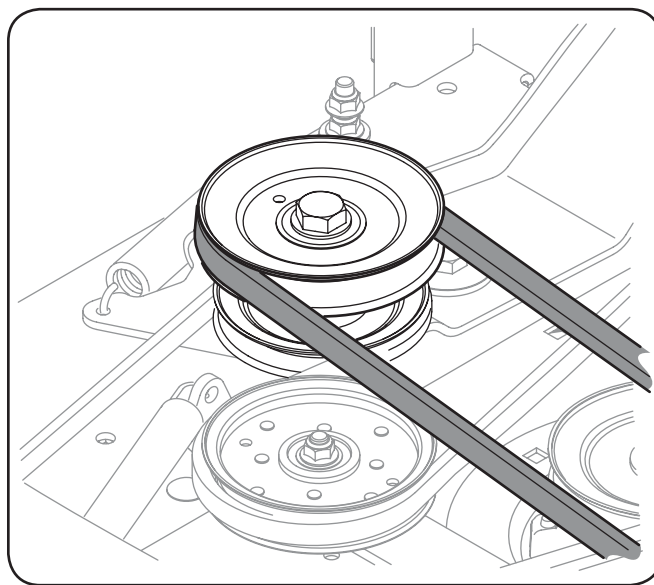

Figure 7-9
5. Carefully route the PTO belt around the deck drive pulley, with the 'V' side of the belt facing inward, by slowly rotating the pulley with the belt in your palm. Once the belt is seated, *slowly* allow the wrench to pivot forward, applying tension. See Fig. 7-9.